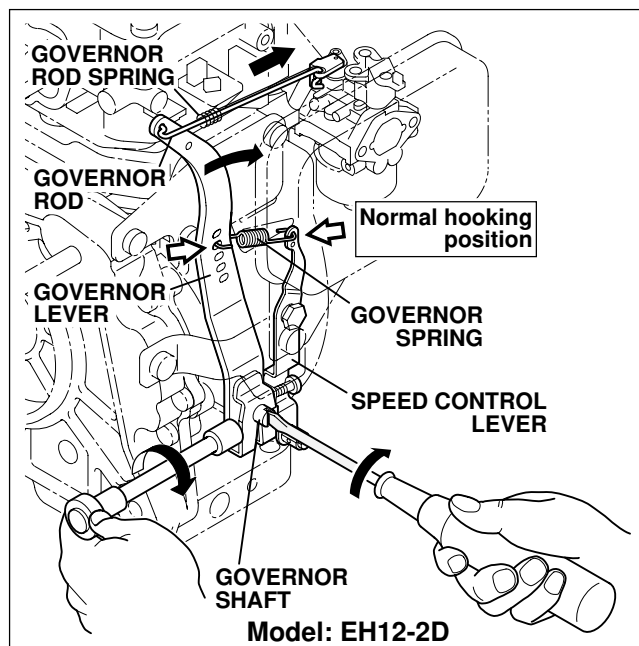

Fig. 5-40b
- (1) Install governor lever to governor shaft, then tighten the locking bolt temporarily.
- (2) Install speed control lever, pivot bolt, etc. as shown in illustration.
- (3) Hook governor spring to proper holes of governor lever and speed control lever. (See Fig. 5-40b)
- (4) Install insulator and gaskets for carburetor to intake pipe.
- (5) Install carburetor to intake pipe hooking governor rod to governor lever and throttle lever of carburetor. Hook rod spring over governor rod.
- (6) Attach air cleaner base to carburetor. Tighten two flange nuts and a bolt. Connect breather pipe from rocker cover to cleaner base.